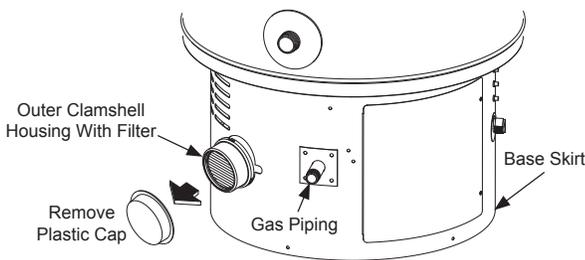
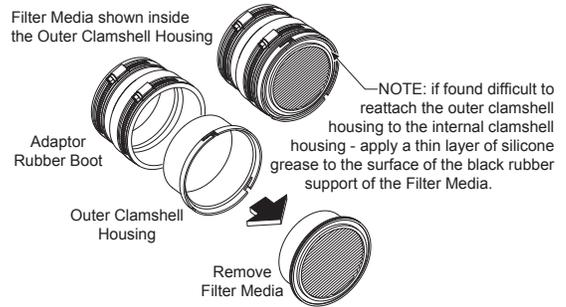

Figure 14. Remove Plastic Cap
Figure 17. Filter Media
The air intake filter included with the unit must be installed according to the installation instructions supplied with the filter. Installation steps are shown in **Figure 14-Figure 17**.
- Remove and discard the plastic cap from the outer clamshell housing. See **Figure 14**.